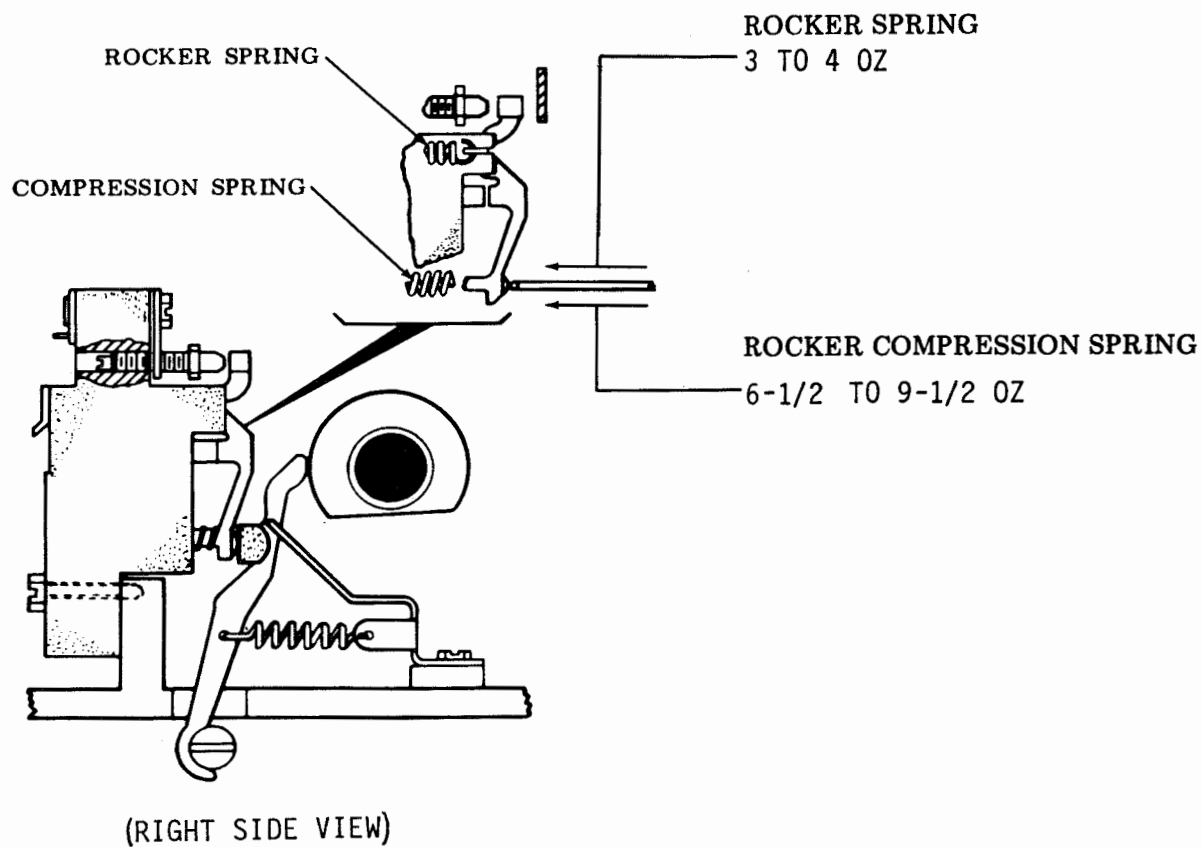

Figure 6-130. Rocker Spring and Rocker Compression Springs
- (a) Refer to figure 6-130.
(16) Rocker Compression Spring. Adjust rocker compression spring as follows:
(17) Clutch Latchlever Spring. Adjust clutch latchlever spring as follows: